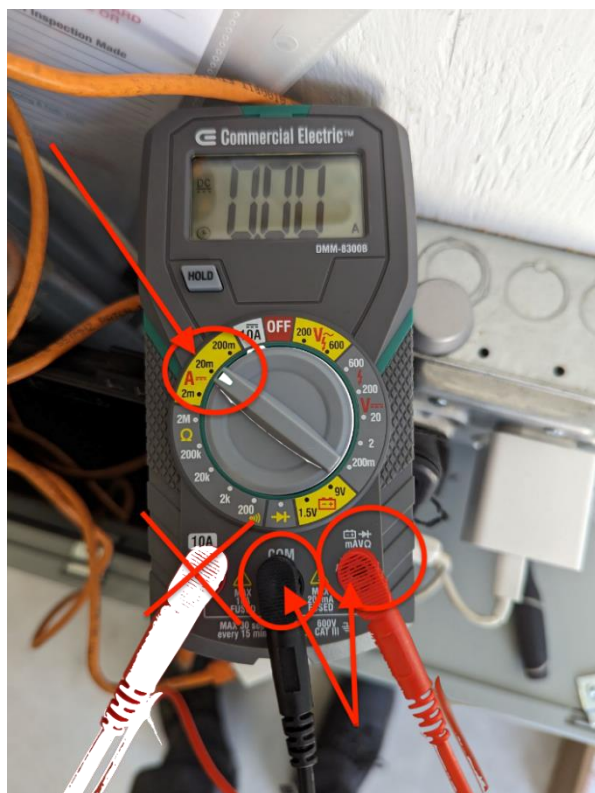

Figure 8-13: Example with Commercial Electric multimeter set-up to measure 4-20mA DC current
- **See Figures 8-13 and 8-14** for examples of setting up typical multimeters to perform this test.